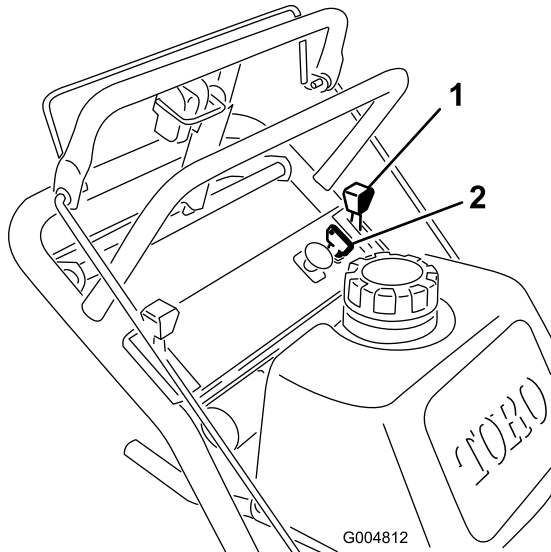

Figure 8
1. Move the throttle lever to the **slow** position (Figure 8).
- Turn the ignition key to **off** (Figure 8).